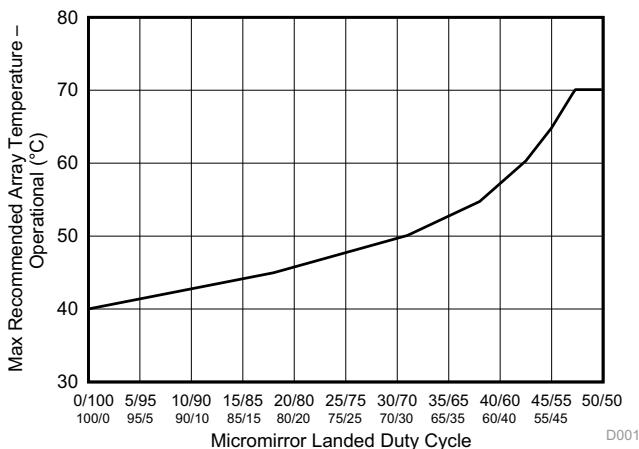

Figure 1. Maximum Recommended Array Temperature Derating Curve
- (6) Per Figure 1 the maximum operational array temperature should be derated based on the micromirror landed duty cycle that the DMD experience in the end application. Refer to **Micromirror Landed-On/Landed-OFF Duty Cycle** for a definition of micromirror landed duty cycle.
- (7) Long-term is defined as the usable life of the device
- (8) Array temperatures beyond those specified as long-term are recommended for short-term conditions only (power-up). Short-term is defined as cumulative time over the usable life of the device and is less than 500 hours.